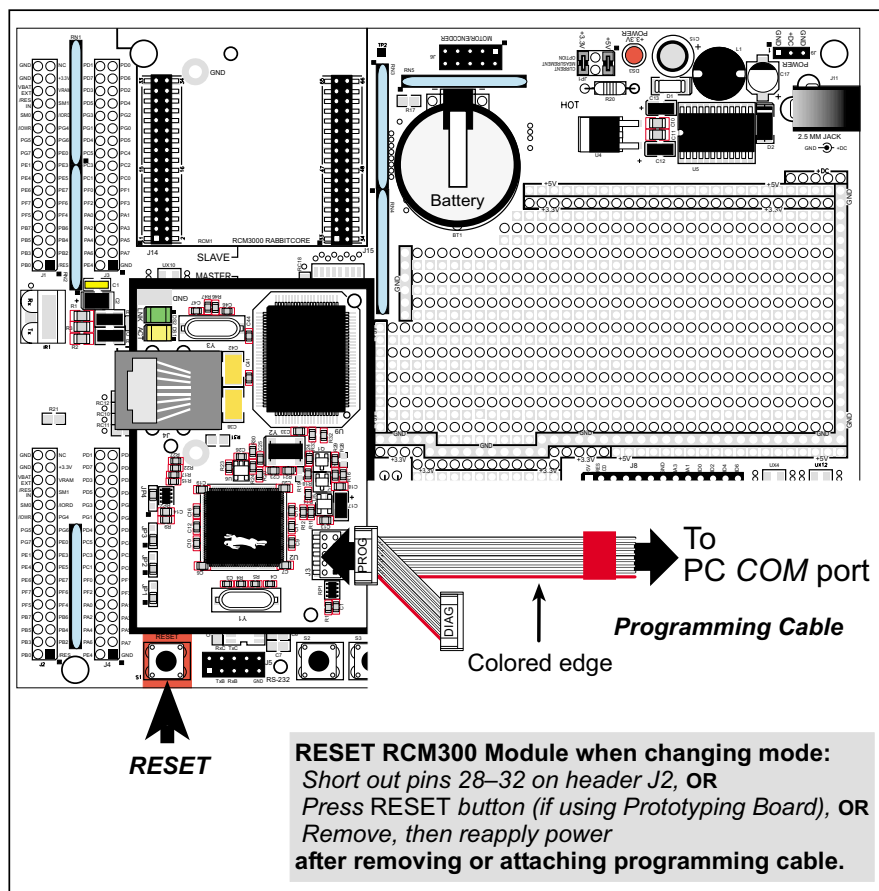

Figure 5. Switching Between Program Mode and Run Mode
2. Reset the RCM3000. You may do this as explained in Figure 5.